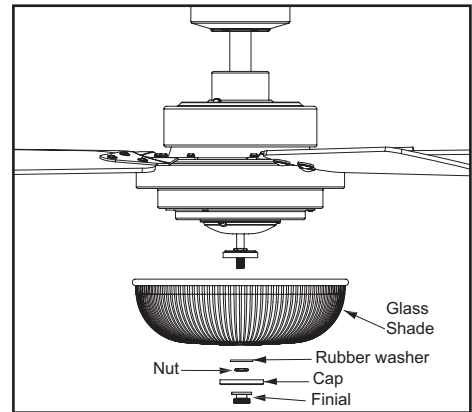

Figure 17
3. Remove the rubber gasket, nut, cap and finial from the threaded nipple of the light kit fitter assembly. Position the glass bowl over the threaded nipple. Re-install the rubber gasket, nut, cap and finial to the threaded nipple to secure the glass bowl properly. (Figure 17)